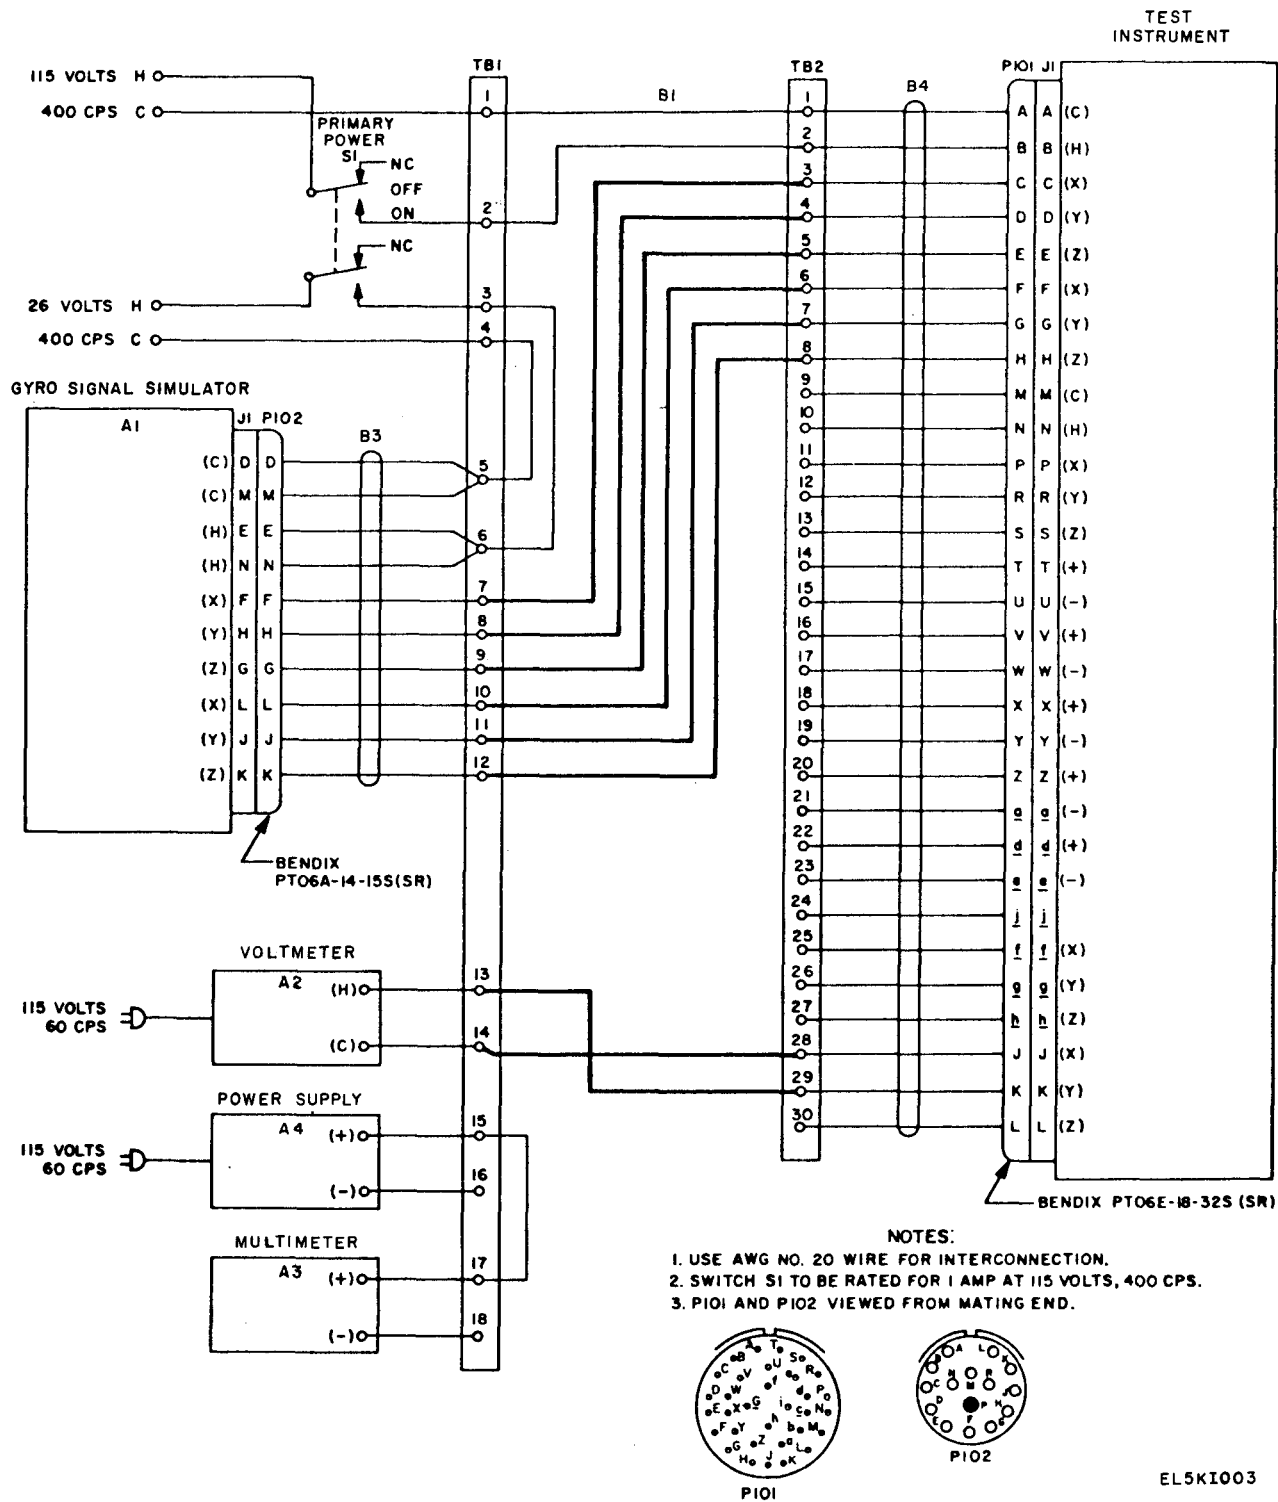

Figure 3. Heading dial setup.
10. Tests of Heading Dial. a. Connect equipment as shown in figure 3.